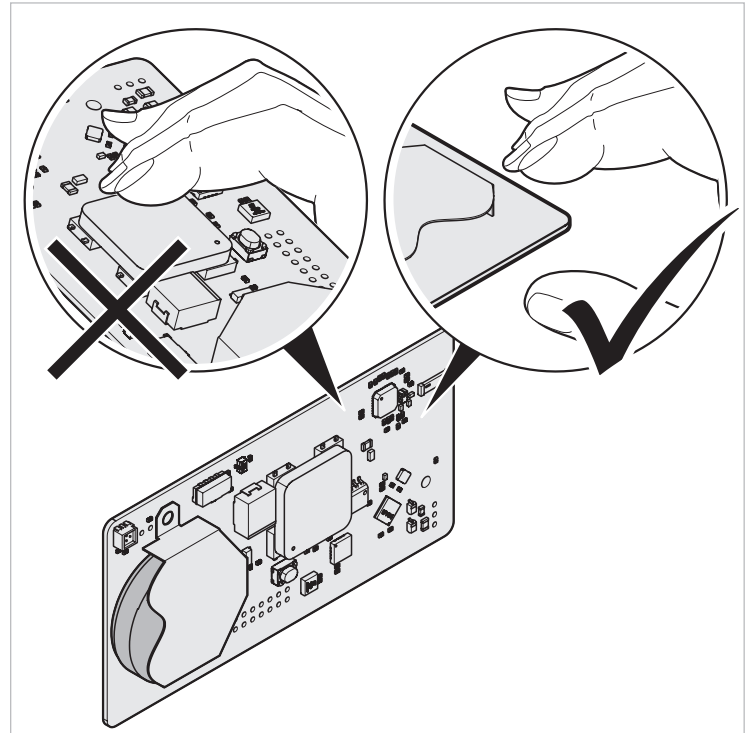

Fig. 14 Holding the printed circuit board by the edges
2. Carefully lift the printed circuit board by holding it by the edges (1, Fig. 14).